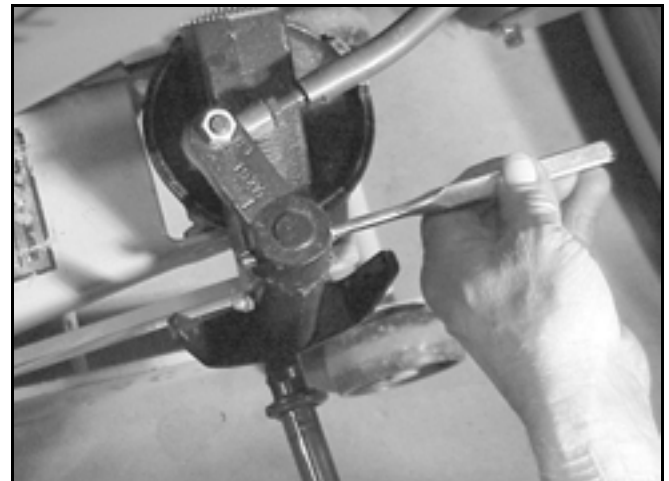

Figure 12
4. Remove the tie rod from the front spindle arm. With a drift punch and hammer, drive the roll pin out of the front spindle arm (Figure 12).